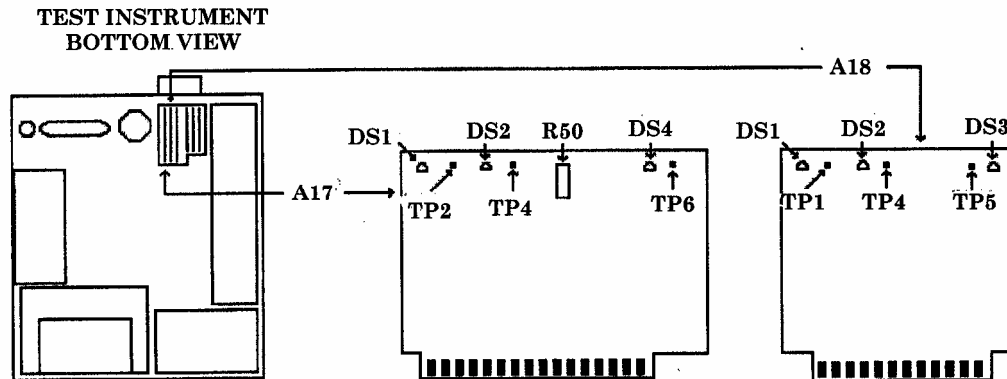

Figure 34. A17 & A18 Boards
- (23) Connect multimeter **HI** to A17TP4 (fig. 34) and multimeter **LO** to TI chassis.
- (24) The 20 V indicator A17DS2 (fig. 34) (yellow LED) should be lit.
- (25) Adjust A17R50 (fig. 34) for a multimeter indication of 20.000 ± 0.001 V dc (R).
- (26) Connect multimeter **HI** to A17TP6 (fig. 34) and multimeter **LO** to TI chassis.
- (27) The 12 V indicator A17DS4 (fig. 34) (yellow LED) should be lit.
- (28) Multimeter should indicate 12.25 ± 0.30 V dc.
- (29) Connect multimeter **HI** to A17TP2 (fig. 34) and multimeter **LO** to TI chassis.
- (30) The 5.2 V indicator A17DS1 (fig. 34) (yellow LED) should be lit.
- (31) Multimeter should indicate 5.2 ± 0.05 V dc.
- (32) Connect multimeter **HI** to A18TP5 (fig. 34) and multimeter **LO** to TI chassis.
- (33) The -5.2 V indicator A18DS3 (fig. 34) (yellow LED) should be lit.
- (34) Multimeter should indicate -5.2 ± 0.05 V dc.
- (35) Connect multimeter **HI** to A18TP1 (fig. 34) and multimeter **LO** to TI chassis.
- (36) The -40 V indicator A18DS1 (fig. 34) (yellow LED) should be lit.
- (37) Multimeter should indicate -39.8 ± 0.4 V dc.
- (38) Connect multimeter **HI** to A18TP4 (fig. 34) and multimeter **LO** to TI chassis.
- (39) The -10 V indicator A18DS2 (fig. 34) (yellow LED) should be lit.
- (40) Multimeter should indicate -10.0 ± 0.1 V dc.